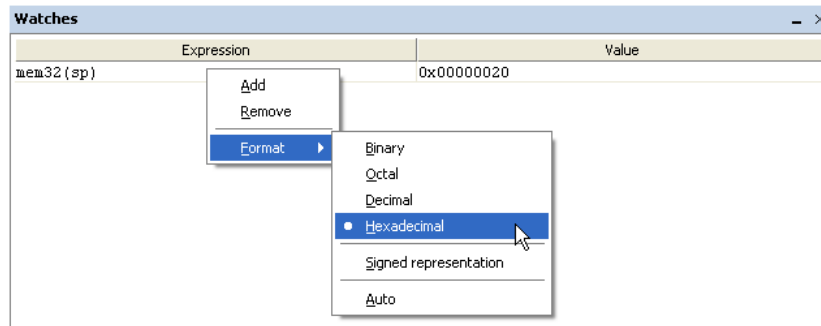

Figure 42. Changing the number format of a watch value.
5. The number format of the displayed value can be changed by right-clicking on the row for that value, as shown in Figure 42.